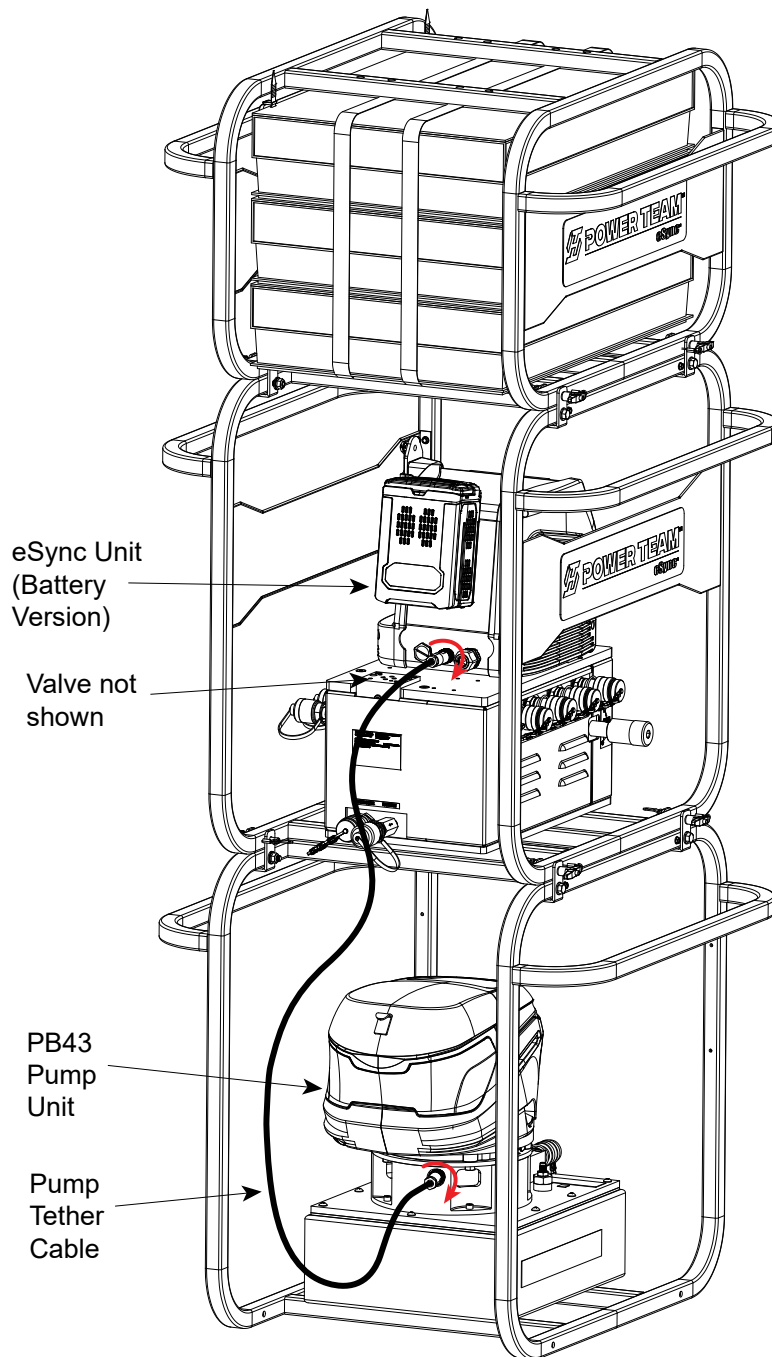

Fig. 16: PB43 Pump to eSync Connection
- I. Connect the PB43 pump cage to the eSync cage using the U-Bracket, T-Handle Lock Pin, Screw, Washer, and Nut that are supplied with the pump unit (see figure 16).
- K. Connect one end of the tether cable's female connector to the male connector on the PB43 pump unit. Then, connect the male connector on the other end of the cable to the female connector on the eSync unit (see figure 16).